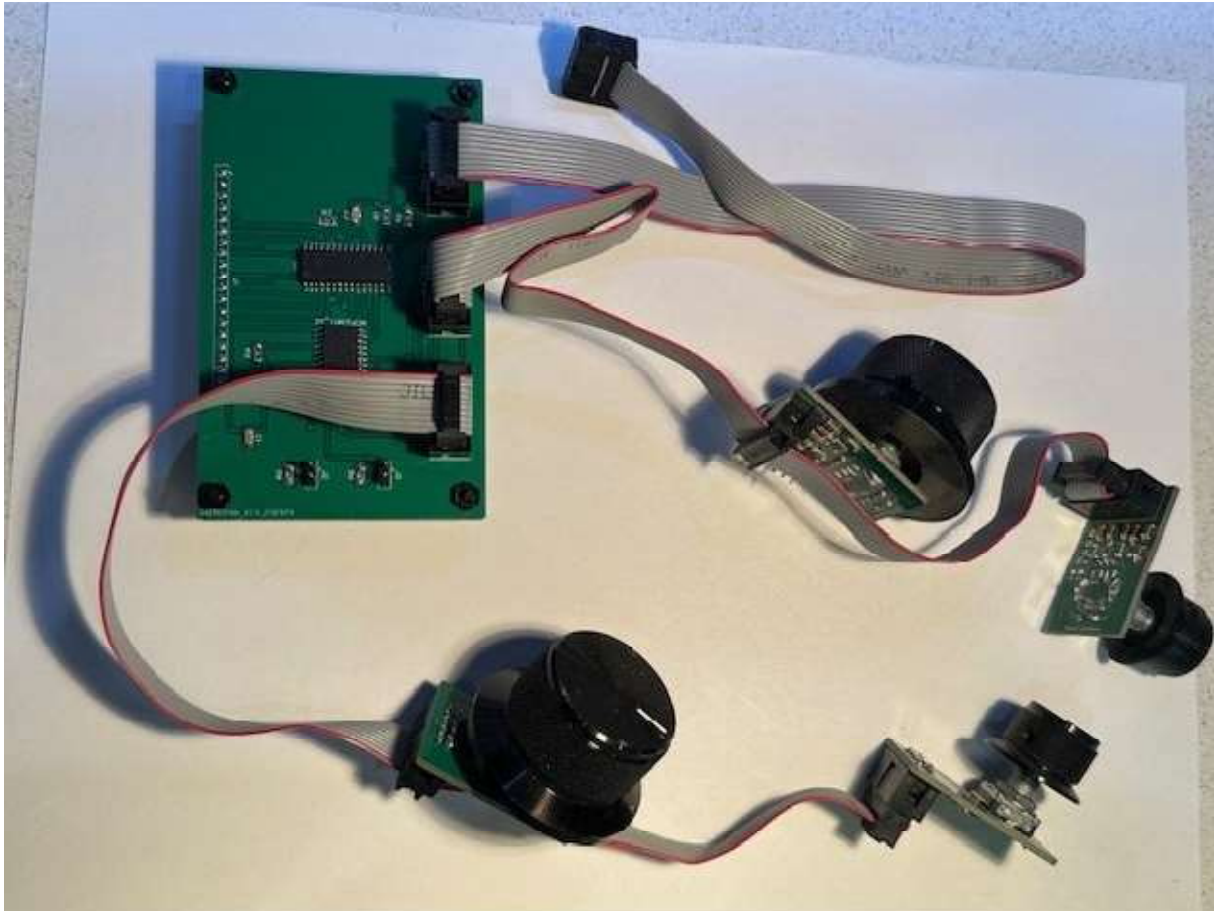

Figure 4. Connections to the Front Panel Board Set.
17. Make a cable to connect the Front Panel boards to the T41 Main Board Tune/Filter connector (Front Panel on the V012 Main Board). See Figure 4.